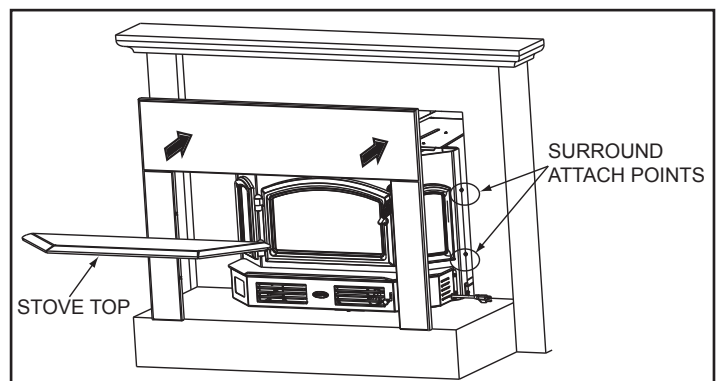

Figure 18.5
6. Install the surround set and trim set to the outer can. Place the hook in the surround sides over the surround attachment screws, 2 on each side. **Figure 18.5.**